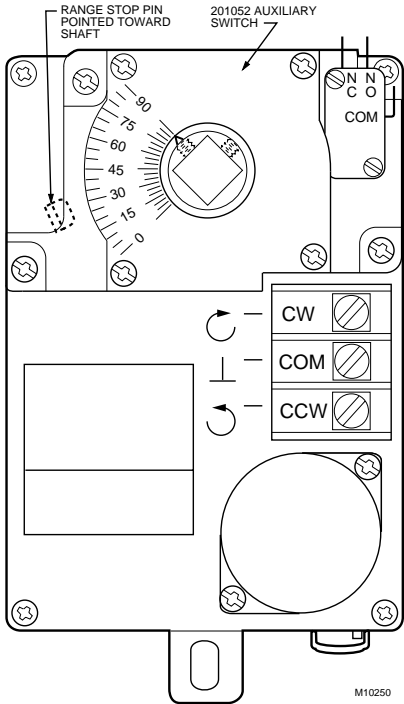

Fig. 4. ML6161 DCA with 201052A Auxiliary Switch.
- 2. Align the switch hub with the set screws on the actuator. See Fig. 4. Mount the switch on the actuator and tighten the three captive screws.